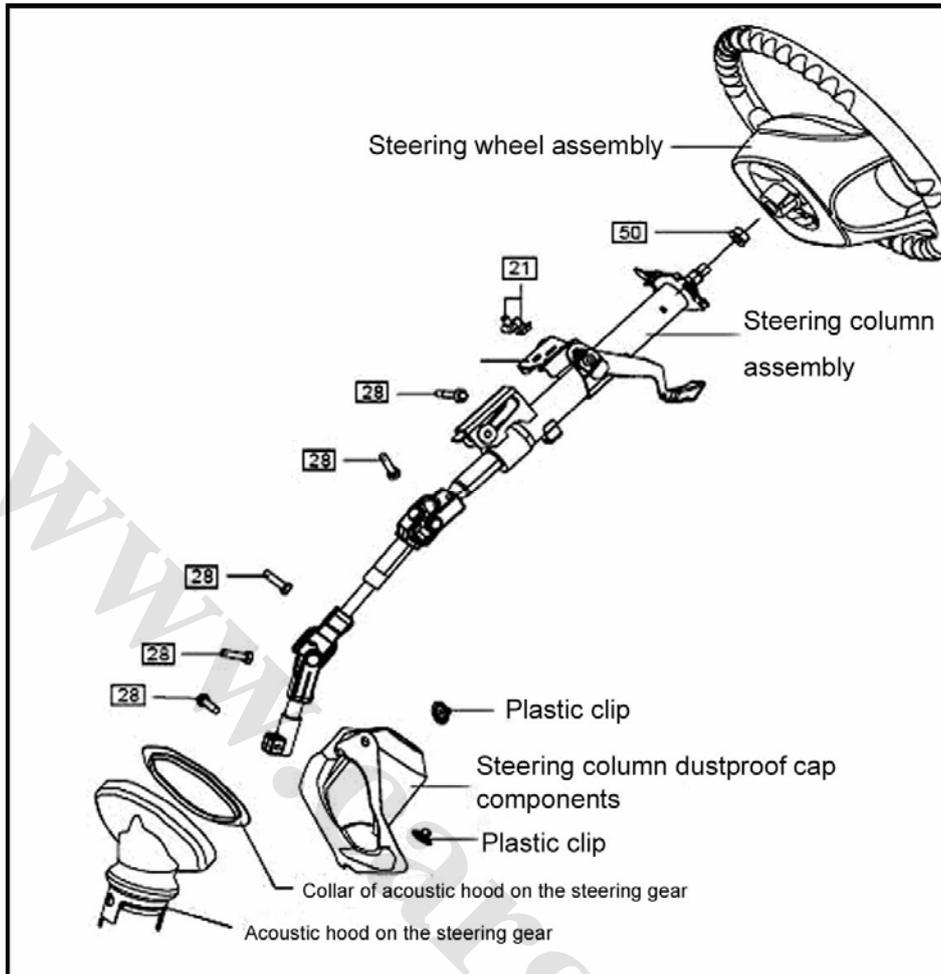

Fig. 2-25
2. Steering wheel and column as shown in Fig. 2-25.